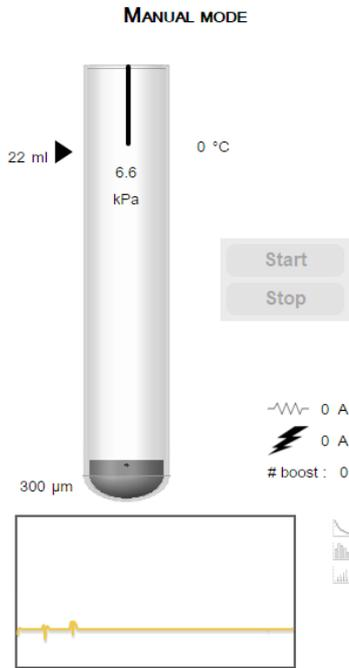

Figure 45: Graphical Analyzer Status window (measuring status)
The status of the analyzer is shown in the Graphical Analyzer Status window (see “Figure 45: Graphical Analyzer Status window \(measuring status\)” on page 53 below) in the top right corner of the web browser interface screen. Refer to Section “3.9 LiMCA III web browser interface overview” on page 23 for an overview of the web browser interface main screen.
3. Press the Start button in the Graphical Analyzer Status window (see “Figure 45: Graphical Analyzer Status
In the Graphical Analyzer Status window (see “Figure 45: Graphical Analyzer Status window (measuring status)” on page 53, the orifice of the probe will temporarily appear in red and the Cond. parameter will increment, indicating the cumulative number of conditioning shots applied to the ESZ since the installation of this probe.